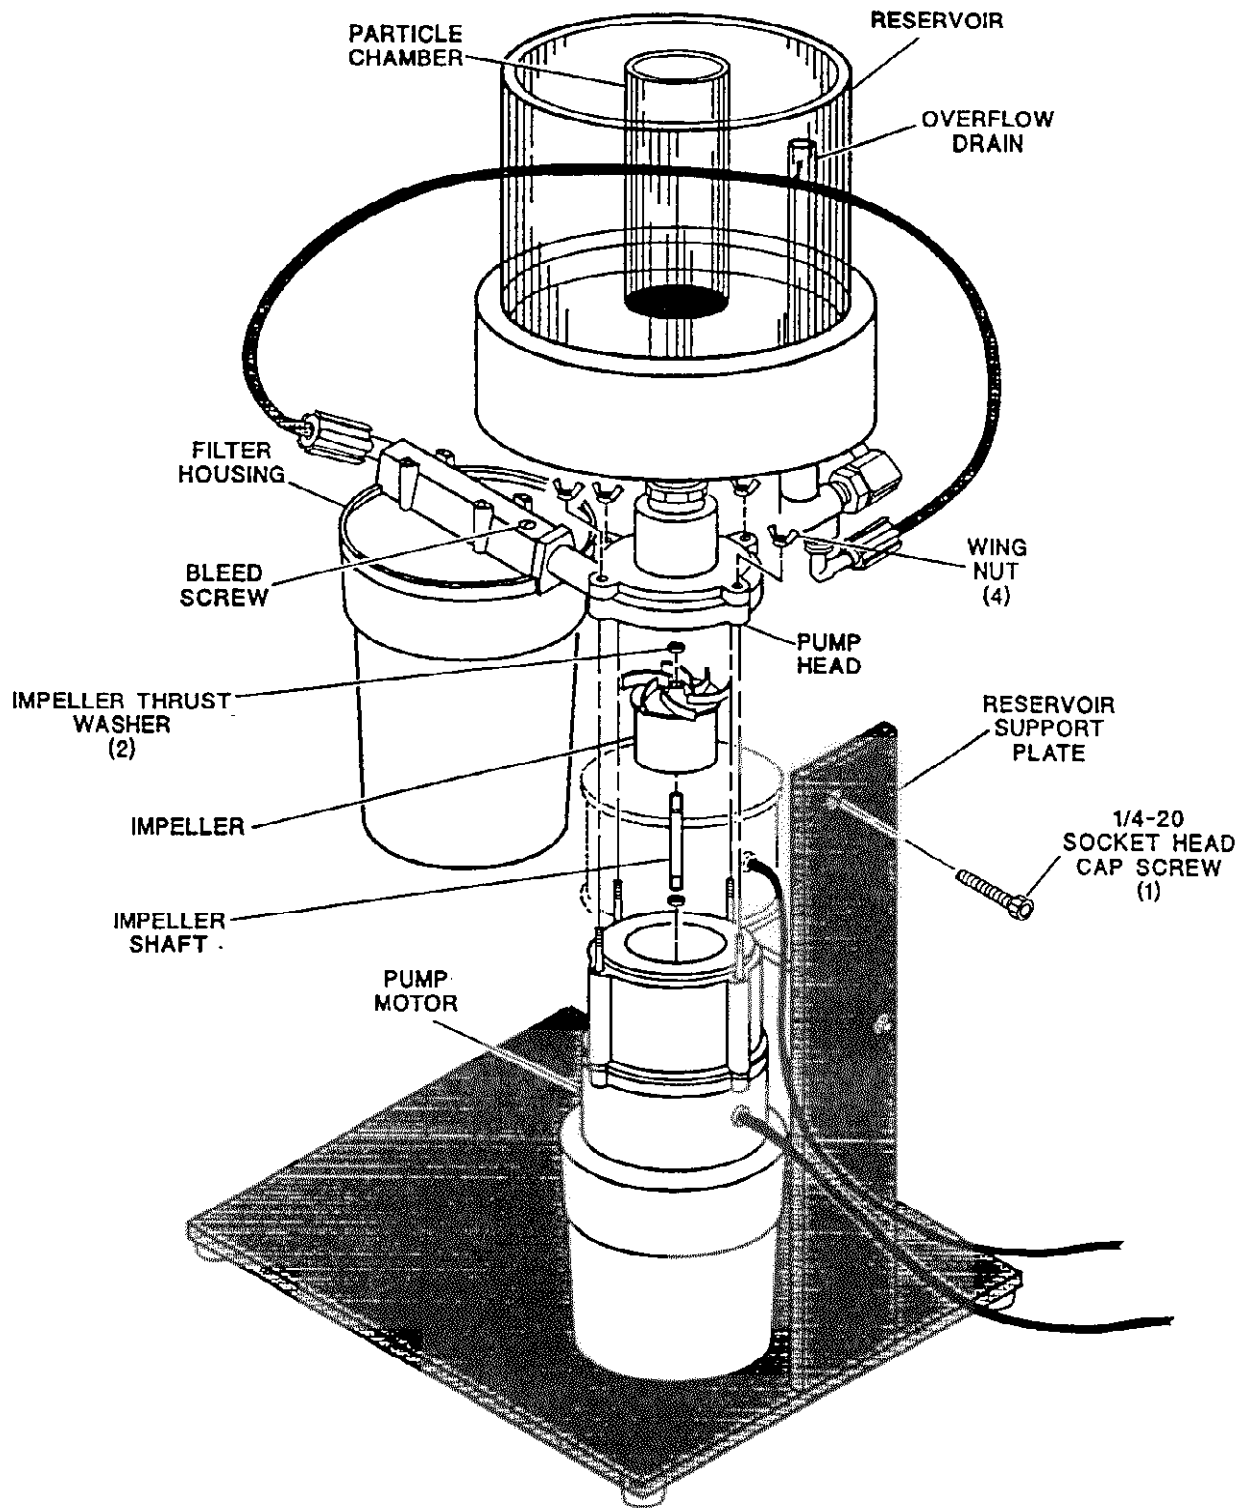

Figure 5-1. LPFS-200 Assembly
2. Remove the 1/4-20 socket head screw from the reservoir support plate (refer to Figure 5-1).
1. Place the impeller shaft, thrust washers and impeller on the pump (Figure 5-1).
3. Install the reservoir and filter assembly by placing the pump head over the pump. Secure the pump head using the four wing nuts (Figure 5-1). Tighten the wing nuts evenly.